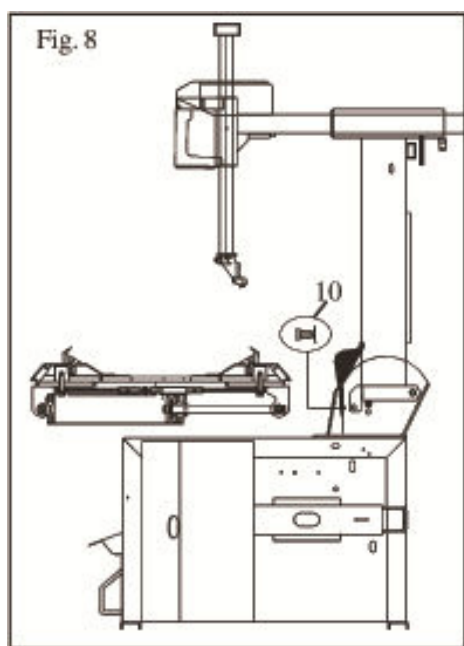

Fig. 8
- Tighten the nut (7).
- Tighten the screw and washer (10) to fix the plastic cover as shown in Fig. 8.